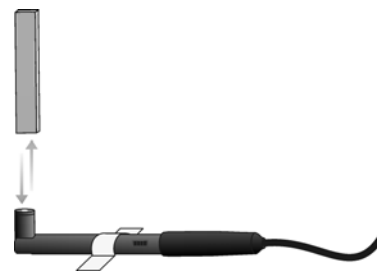

Figure 1
1. Tape the Magnetic Field Sensor to the table with the white dot facing up (see Figure 1). When placing your sensor, avoid things such as electrical wires, computer monitors, or metal brackets as these can interfere with your sensor.
5. Hold the magnet vertically about 20 cm above the Magnetic Field Sensor. One end of the magnet should be lined up with the white dot on the sensor as shown in Figure 1.
- a. Click the Meter View tab (M).